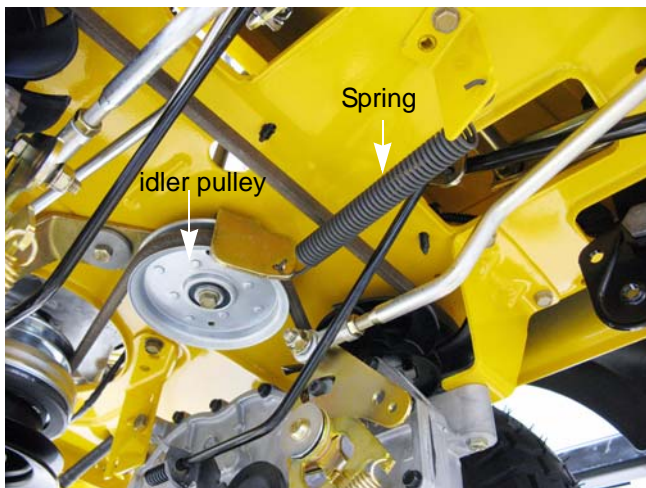

Figure 4.21
12. Loosen the bolt the idler pulley spins on enough to allow the belt to slip between the pulley and the belt guide. See Figure 4.21.